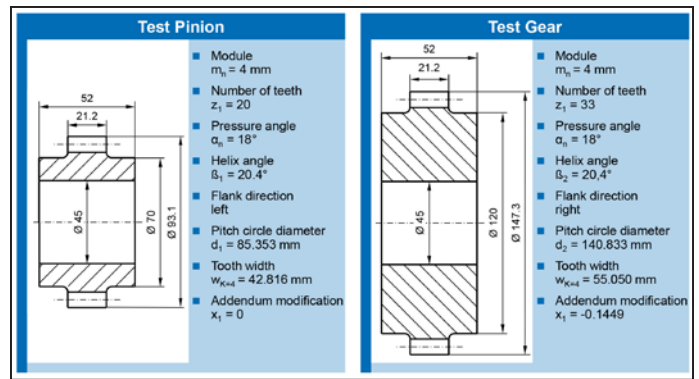

Figure 2 Gear geometry—test pinion and gear.
**Geometry and initial situation of test gears.** For the fatigue strength test, a standardized, gear geometry of the Laboratory for Machine Tools and Production Engineering (WZL) was chosen. The gear set has a module of  $m_n = 4.0$  mm with 20 teeth at the pinion, 33 teeth at the wheel, and a gear face width of  $b = 21.2$  mm. The pressure angle is  $\alpha_n = 18^\circ$  and helix angle is  $\beta = 20.4^\circ$ . This leads to a standardized center distance of  $a = 112.5$  mm. The complete gear geometry data are shown in Figure 2.